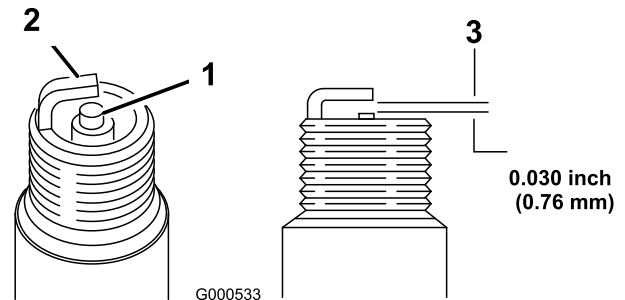

Figure 27
5. Set the gap on the plug to 0.030 inch (0.76 mm) (Figure 27).